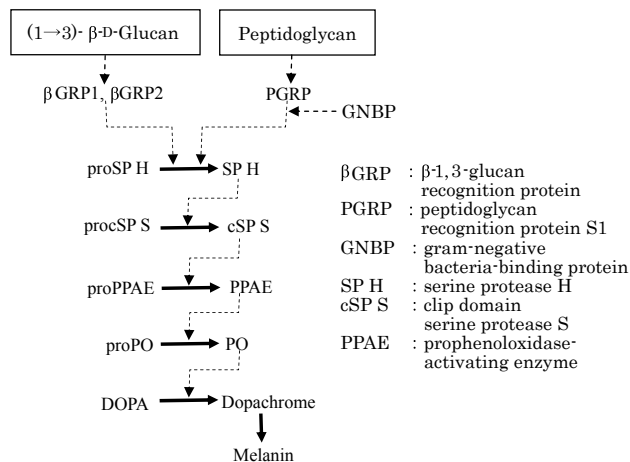

Fig 1. Activation mechanism of SLP system⁴⁾
The activation mechanism of SLP is considered as shown in Figure 1. Either PG or β -glucan binds to the respective recognition proteins termed PGRP or β GRP. The proPO cascade system is initiated by these reactions, and consequently, proPO is converted to phenoloxidase (PO)⁴⁾. The PO catalyzes oxidation of DOPA and is followed by the formation of melanin in the mixture.